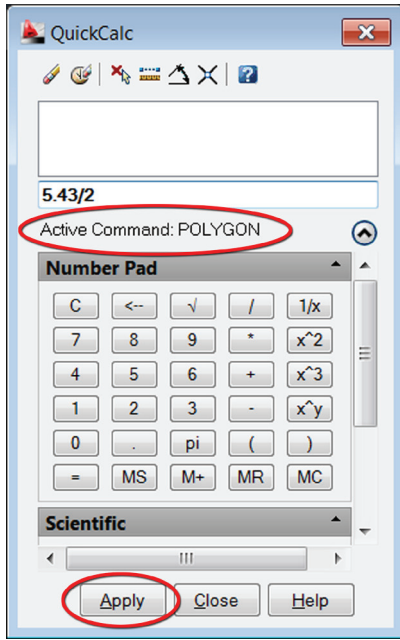

Figure 8: Appearance of Calculator Palette when accessed within a command. Note the “Active Command” designation and Apply button.
4. Enter $5.43/2$ in the input box. Notice it says "Active Command: POLYGON" beneath the input box (See Figure 8). This means your calculation will be applied to the active command.